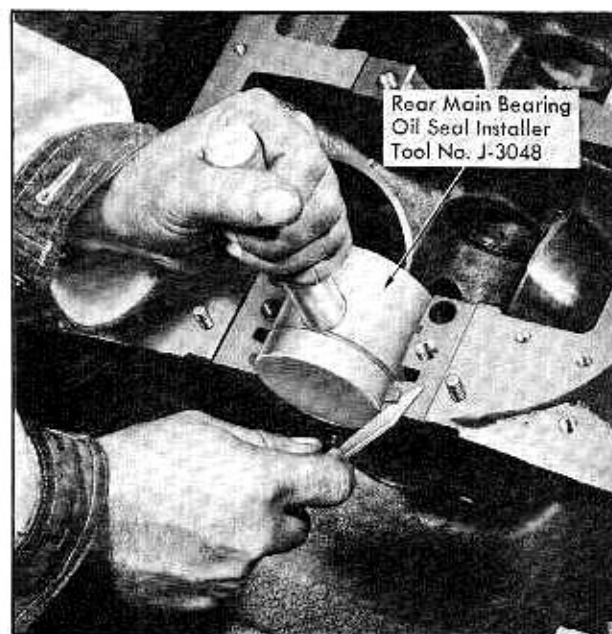

Fig. 10-29 Cutting Rear Main Bearing Oil Seal
3. With tool held in position, cut off each end of packing flush with bearing edge, using a sharp knife, Fig. 10-29.